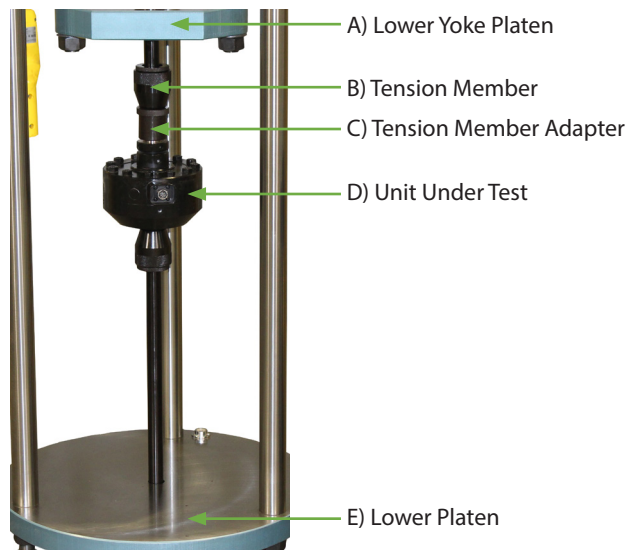

Figure 24: Tension Member Setup
Figure 24 shows the method of connecting a tension member (B) between the unit under test (C) and the lower yoke platen (A). The unit under test is connected to the lower machine platen in a similar fashion.